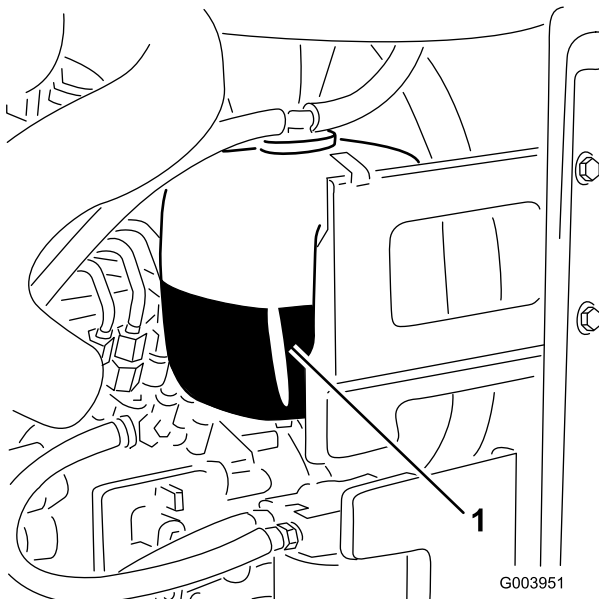

Figure 35
1. Check the level of coolant in the expansion tank (Figure 35).